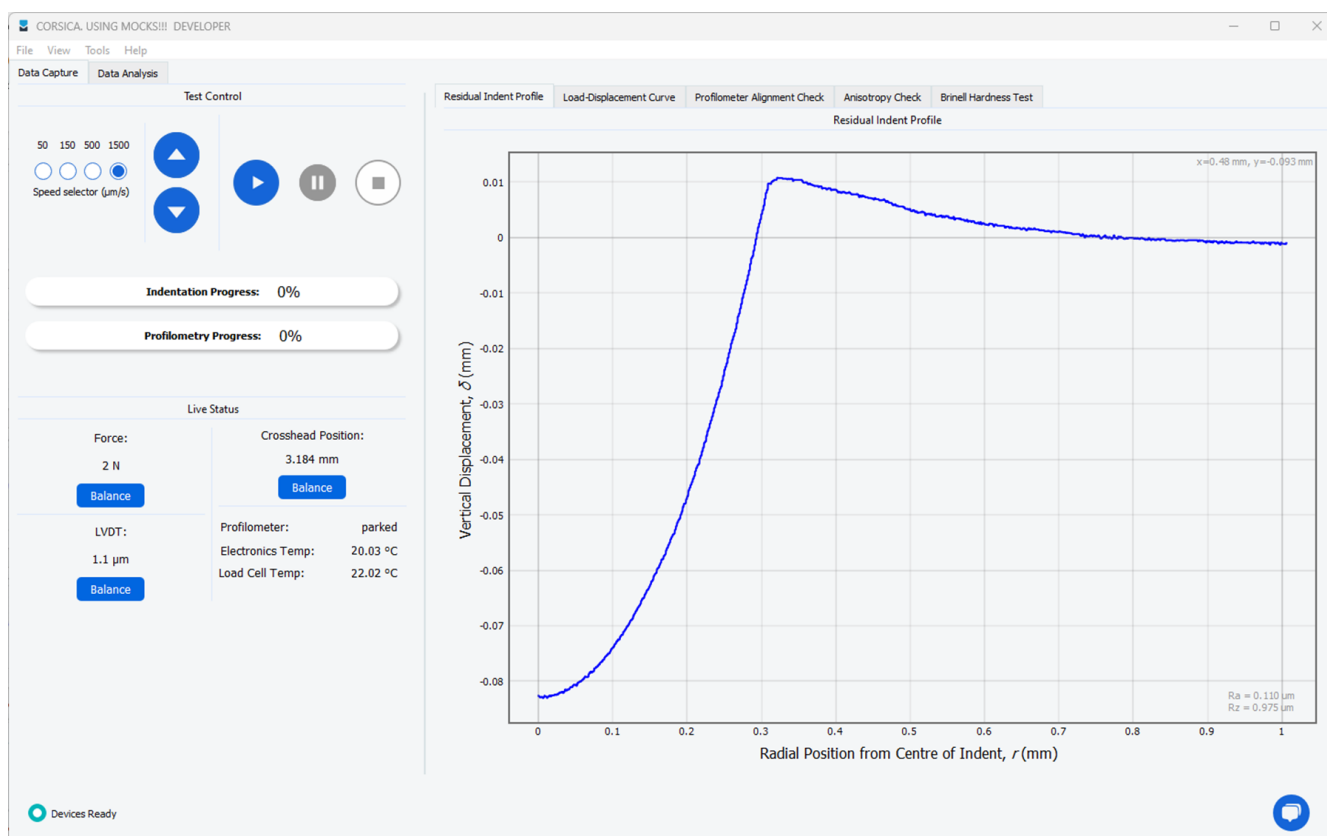

Figure 4.1 Post-profilometry window
8. A quick search for the precise indent centre is carried out. The profilometer scans the indent. After completion of the scan, the resultant profile is displayed on the screen, as shown in Figure 4.1.